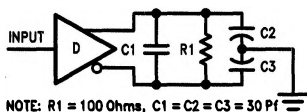

FIGURE 3
**Driver Switching Characteristics** (Figures 3 and 4)**SINGLE ENDED CHARACTERISTICS**
**Driver Switching Characteristics** (Figures 3 and 5)**DIFFERENTIAL CHARACTERISTICS** (Note 6)